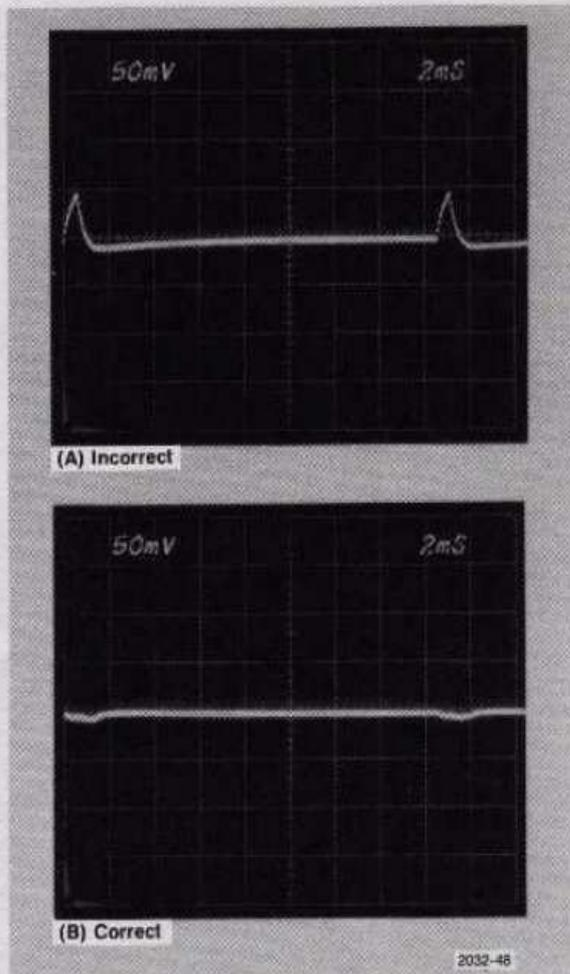

Fig. 5-37. 1420 — DC Balance adjustment.
- b. ADJUST—R1561 (DC Bal) until the test oscilloscope display is a straight line (see Fig. 5-37).